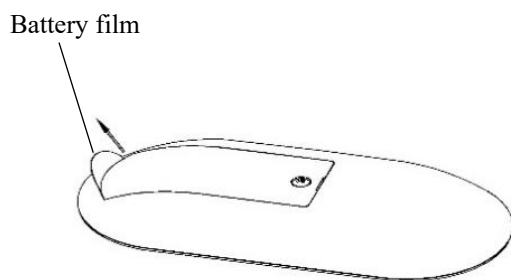

Fig. 7a
1. For first time use of the remote, remove the battery film before use. (Fig. 7a)